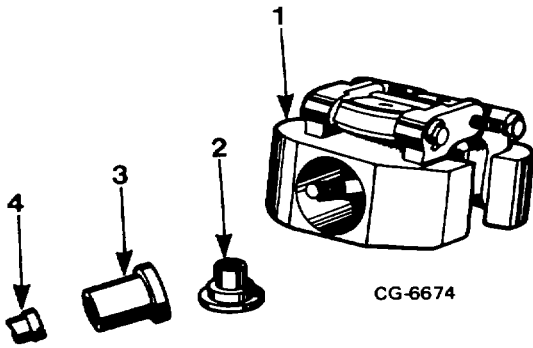

Figure 1. Details of Flyweight Assembly
1. Perform a static check on balanced movement of governor weights by making a temporary build-up *less springs* but using spring seats, trial spacer bushings (obtained locally) and adjusting nuts (Figure 1) on each weight as follows: